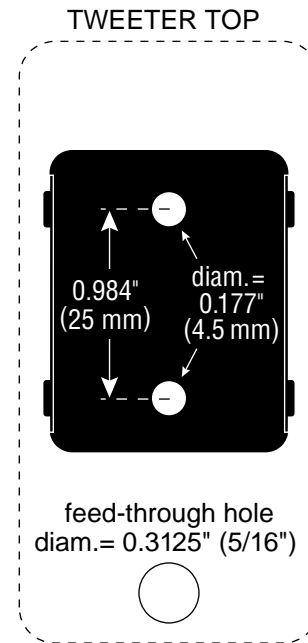

Figure 1. Use this template to surface-mount a Kappa EMIT-N MK II Tweeter. The vertical position provides best high-frequency dispersion.
1. At the chosen site, use the surface-mount bracket (with two holes) or template (see Figure 1) to mark locations of mounting holes. A $\frac{5}{16}$ " diameter feed-through hole is required to pass the tweeter wires and pre-attached terminals. Make sure the proposed hole will not extend beyond the tweeter's boundary.